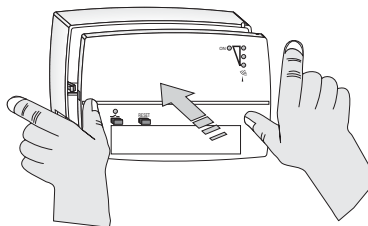

Fig. 9.i
- Push the front on to the base using both hands as shown in figure 9.i, until the catches click and lock the front to the base.
- Carefully reclose the receiver (fig. 9.i - fig. 10.i).